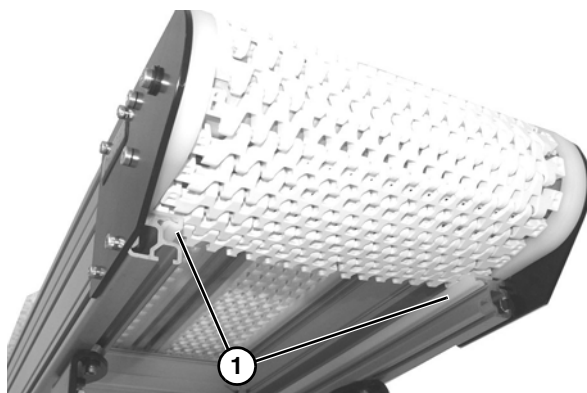

Figure 12
3. Install belt around lower frame section and above lower wear strips (**Figure 12, item 1**).